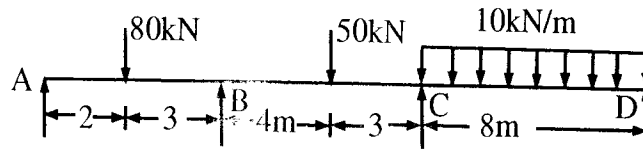

Fig. 5
- Q.2 Using theorem of three moments, solve the continuous beam shown in Fig. 5. Plot the bending moment diagram.